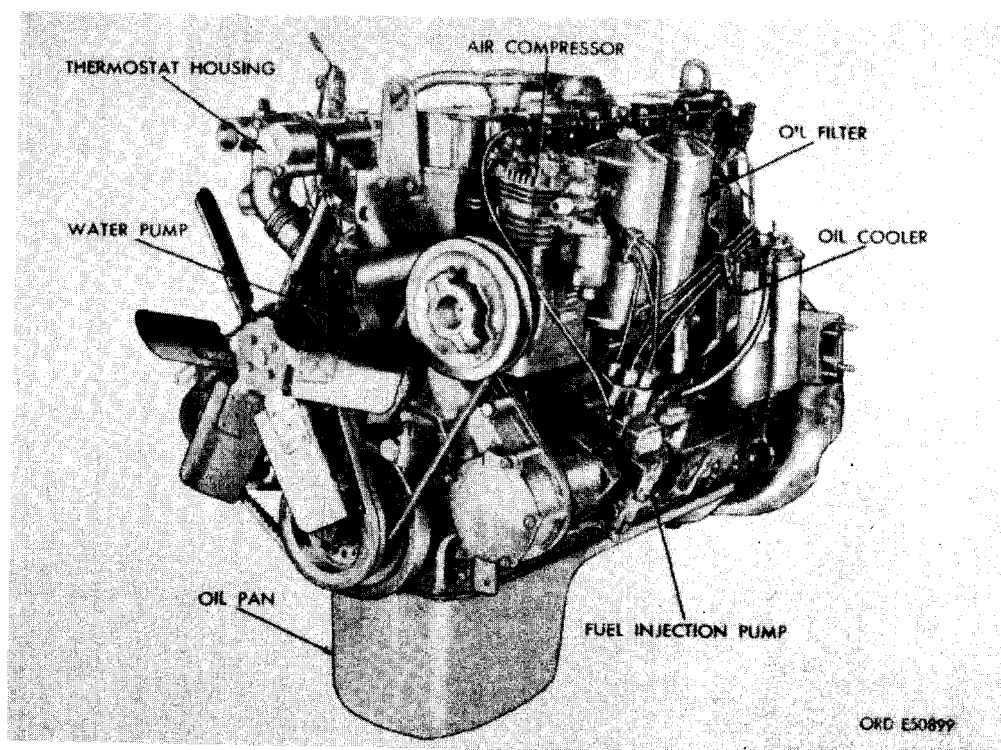

FIGURE 1. LATE MODEL LDS-427-2 ENGINE - 3/4 LEFT FRONT VIEW.
a. This technical manual contains instructions for field and depot maintenance of the Model LDS-427-2 Multifuel engine (figs. 1 through 10). It contains description of, and procedures for 3rd echelon services, removal of engine accessories, disassembly, inspection, repair, rebuild, and assembly of the engine.
- (1) Revises and up dates information for early model engine.